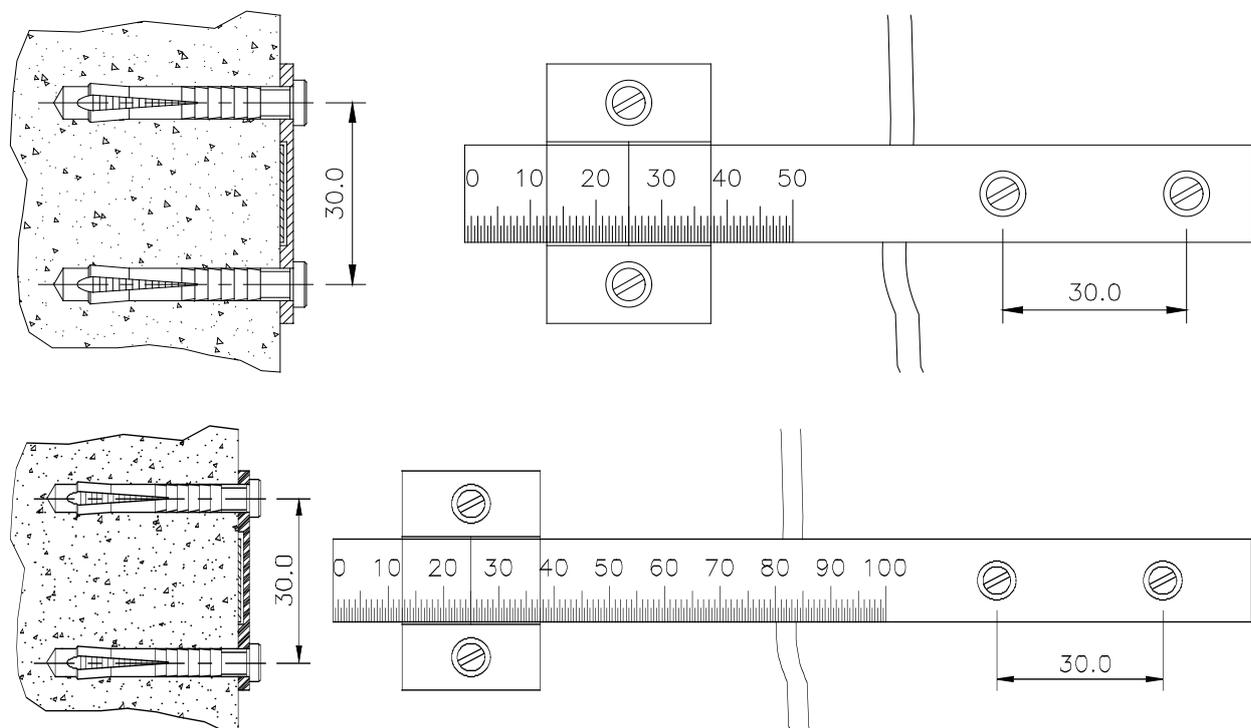

Figure 1: EDJ 40C
The Encardio-rite model EDJ-40C mechanical crack meter is available in two versions; with a marking of 50 mm or 100 mm as shown in figure 1. It is ideally suited for measuring the change in width of a surface crack to a resolution of 0.5 mm. It is used to monitor cracks in concrete/rock structures and buildings affected by nearby construction or excavation activities.
The model **EDJ-40C** mechanical crack meter consists of a graduated scale with a resolution of 0.5 mm and a transparent acrylic plate with a hairline cursor mark. The graduated scale and the transparent acrylic plate are assembled across the crack with expandable anchors in 5 mm diameter holes drilled to a depth of 30 mm as shown in the figure 1.
- 2 Drill another two 5 mm diameter, 30 mm deep holes on the other side of the crack as shown in figure 1.